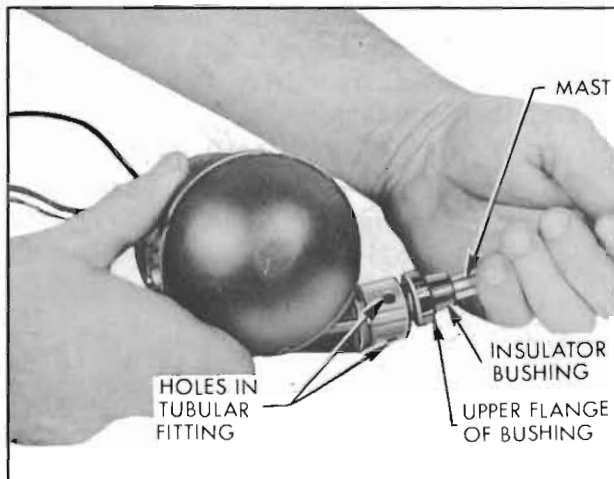

Figure 11-13—Positioning of Insulator Bushing
2. Push .400 tube section and insulator bushing into tubular fitting. Make sure that the upper edge of insulator bushing flange is below center of the 3 holes in the tubular fitting on the drive assembly. See Figure 11-13.